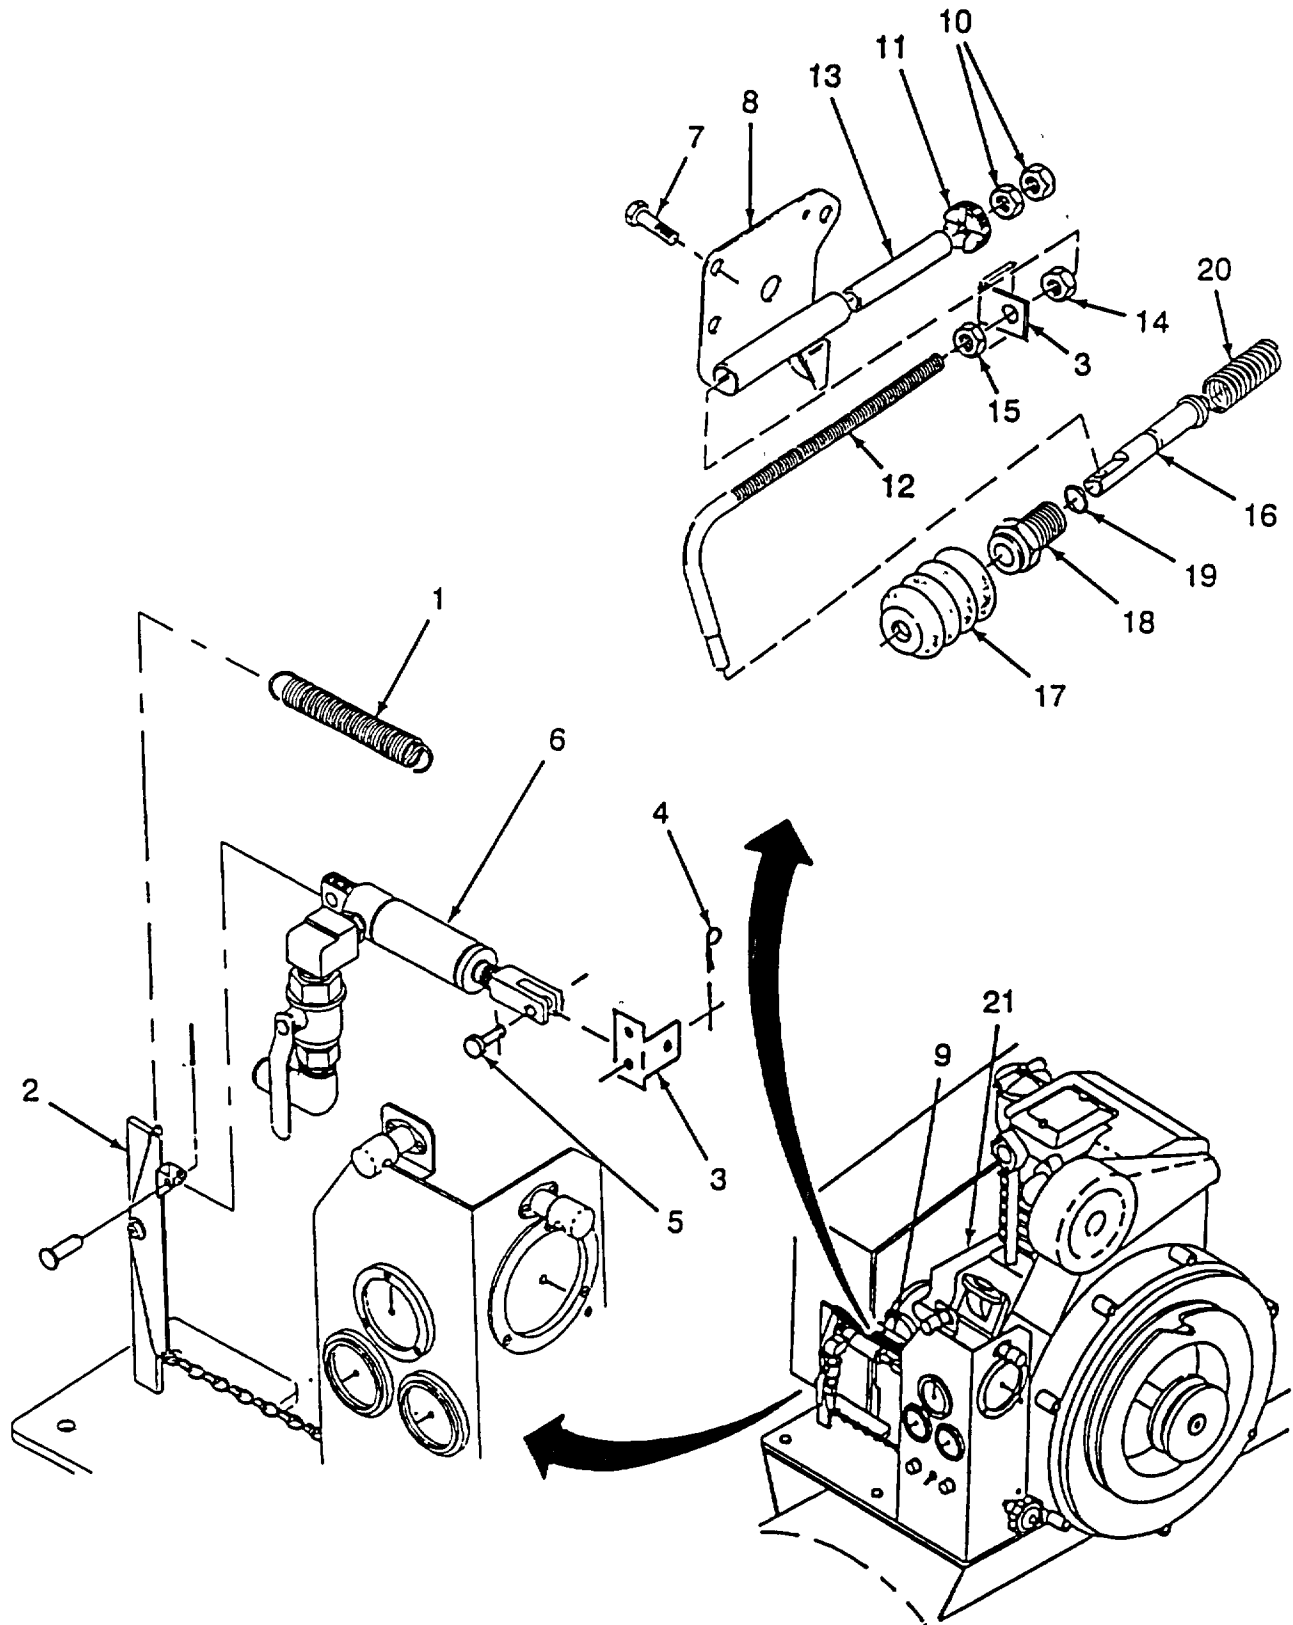

Figure 5-18. Variable Speed Control
(1) Removal. (Refer to Figure 5-18).
- (a) Remove tension spring (1) from air cylinder support bracket (2) and from upper throttle bracket (3).
- (b) Remove cotter pin (4) from pin (5) holding throttle assembly (6) to upper throttle bracket (3).
- (c) Remove three capscrews (7), holding bracket (8) onto guard (9).
(2) Disassembly.
- (a) Remove two nuts (10), and adjusting nut (11) from control rod (12). Slide sleeve (13) off of control rod.
- (b) Remove nut (14) from control rod (12) on outside of upper throttle bracket (3).
- (c) Slide upper throttle bracket (3) from control rod (12). Remove nut (15) from control rod.
- (d) Slide control rod (12) out from plunger (16).
- (e) Remove bellows (17), adjuster (18) and sealing ring (19) from plunger (16). Slide speeder spring (20) off of plunger.
(3) Repair.